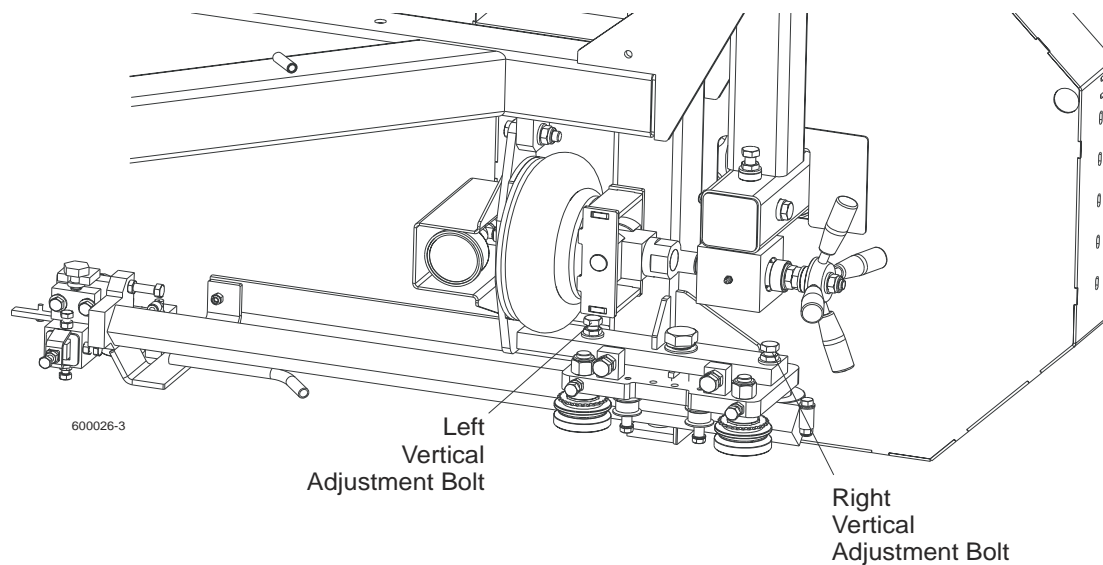

**FIG. 5-35**
**See Figure 5-35.** Adjust the blade guide arm to 1/2" (15 mm) from fully open. Measure the distance from the bottom of the blade guide mounting block to the bed rail. This measurement should be 15" (376.5 mm). If the measurements are not the same, adjust the blade guide arm vertically.